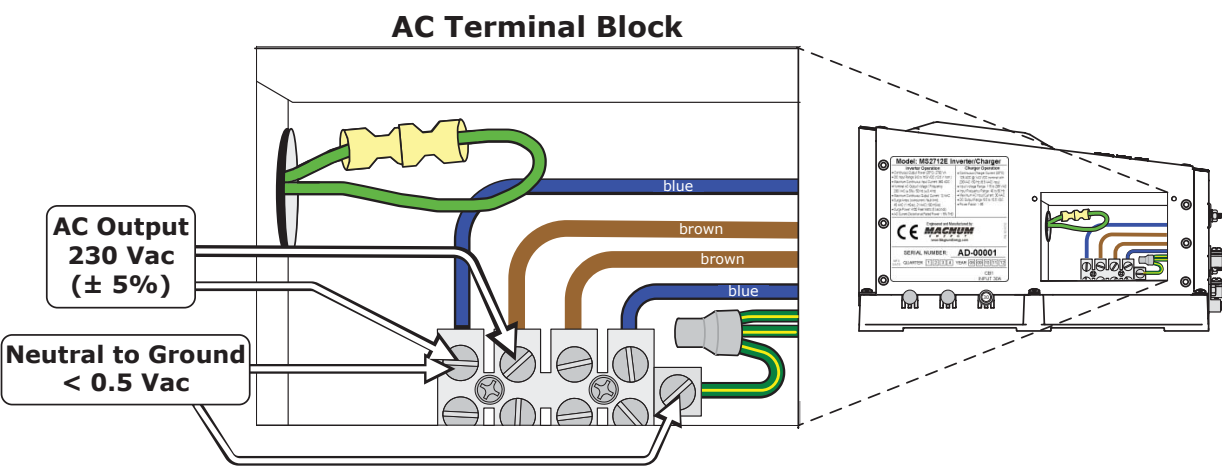

Figure 2-19, AC Voltage Checks
5. Verify the AC output voltage of the inverter by connecting an AC voltmeter to the output terminals (see Figure 2-19).